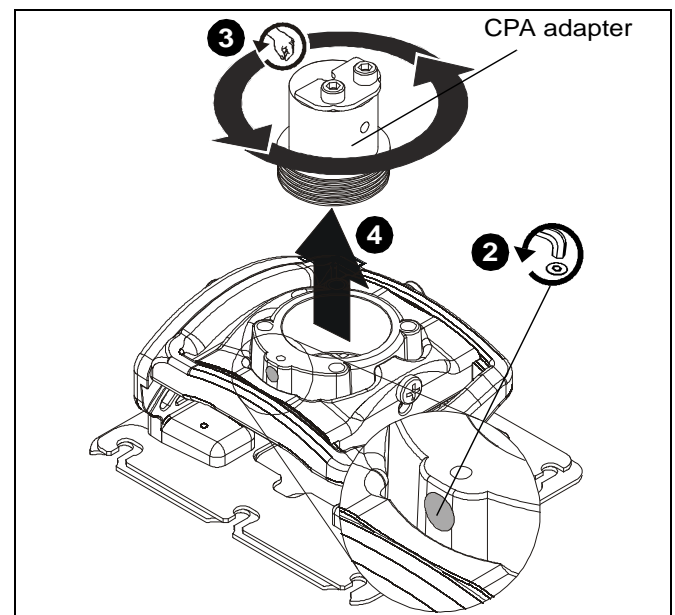

Figure 3
1. Loosen set screw holding CPA adapter to RPME mount. (See Figure 3)
2. Turn CPA adapter counter-clockwise until threads are no longer engaged with RPME. (See Figure 3)
3. Remove CPA adapter from RPME. (See Figure 3)